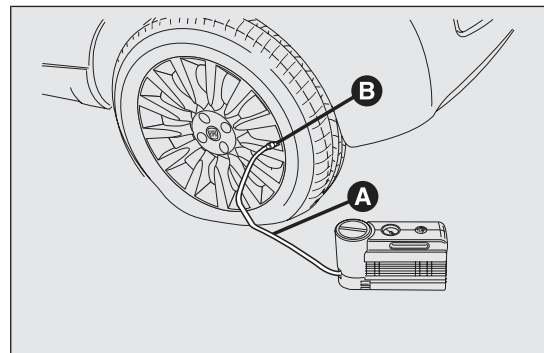

fig. 152
- ☐ Apply the handbrake. Unscrew the tyre valve cap, take out the filler hose A fig. 152 and tighten the ring nut B on the tyre valve;